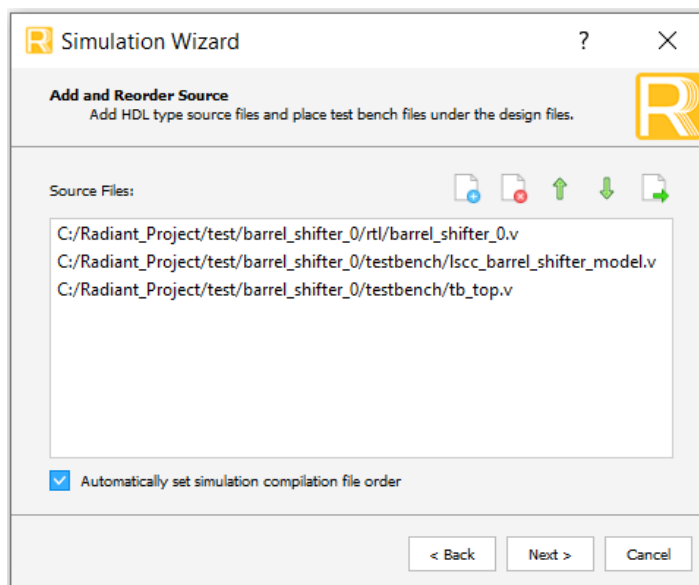

Figure 3.5. Adding and Reordering Source
2. Click **Next** to open the **Add and Reorder Source** window, as shown in Figure 3.5.